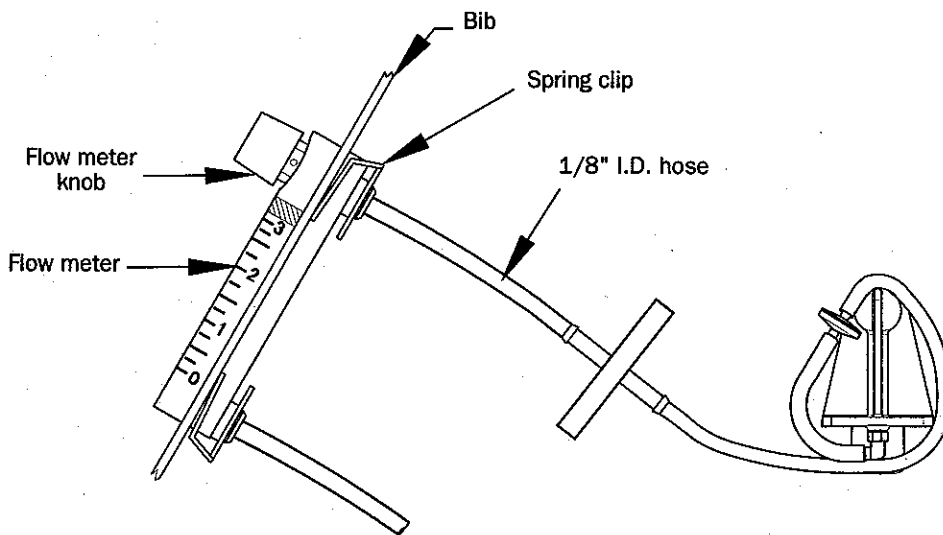

Figure 22
**To replace flow meter (Figure 22):**